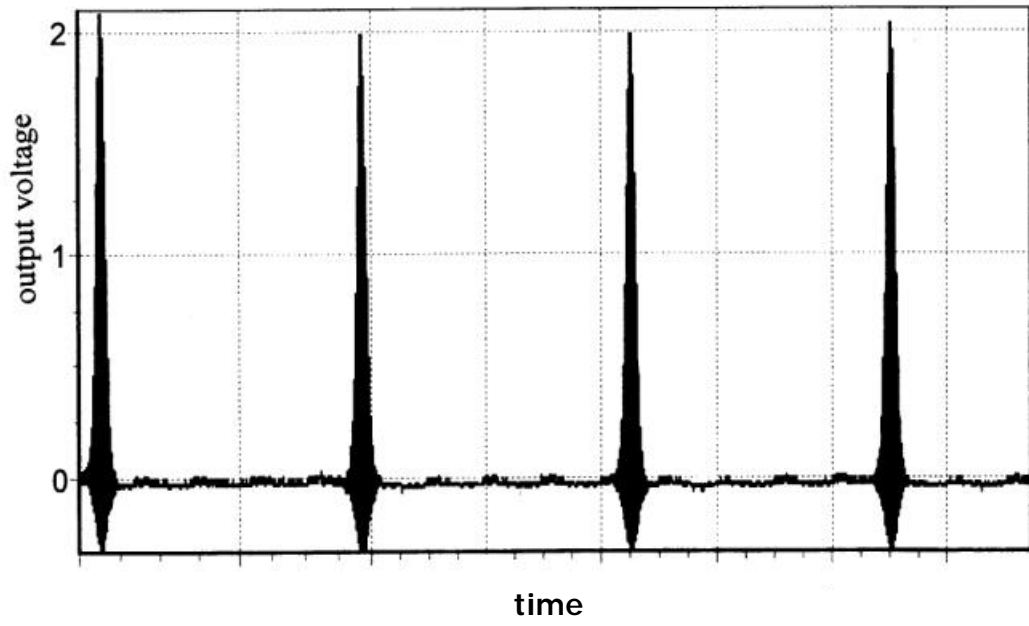

Figure.3
- 5.22 To adjust retro-reflector M2 oscillation amplitude and frequency, adjust "Ampl." and "Freq." with the "Generator" knob. You should see autocorrelation functions on the oscilloscope screen (50-100msec/div) like Fig.3.